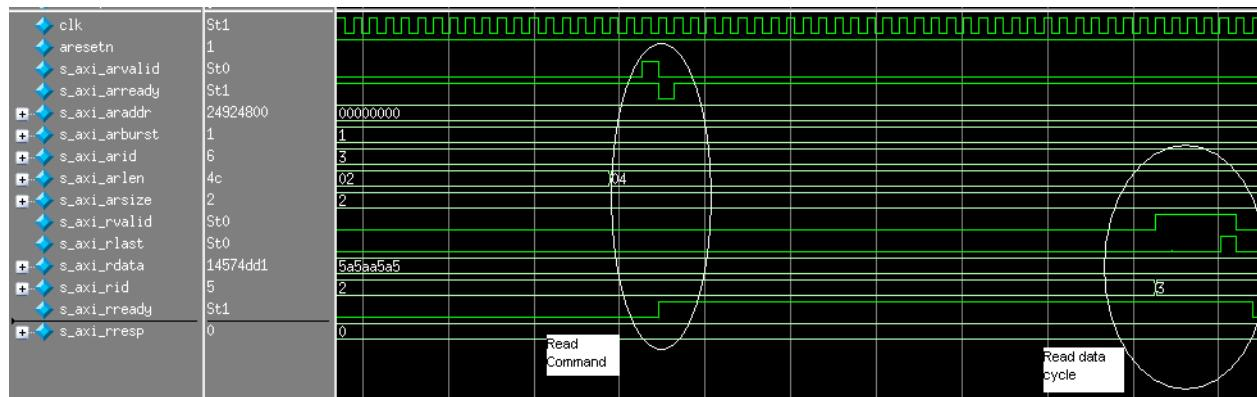

Figure 1-27: AXI4 Interface Read Cycle
**Figure 1-27** shows a simple read transaction being performed on the AXI4 interface. This transaction consists of a command phase and data phase. This follows the standard AXI4 protocol.